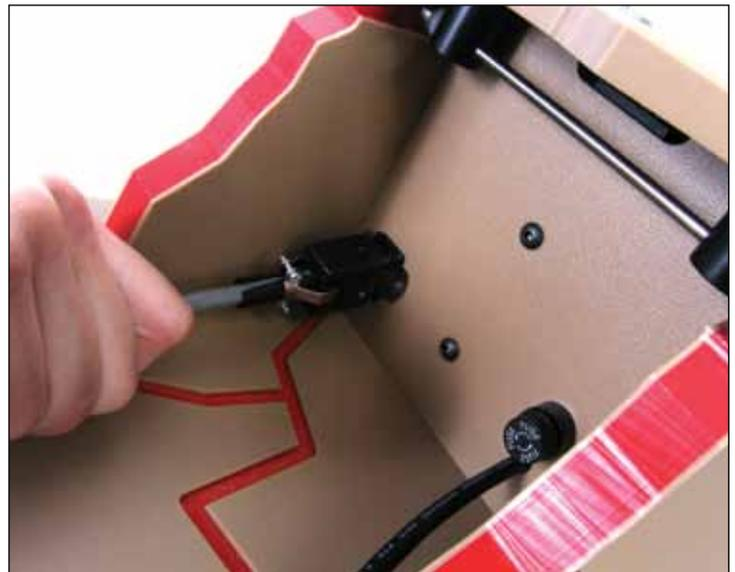

Figure 3
- 1) To set up the EQ^s, first plug the control box cord into the six-pin jack on the side of the tester (Figure 3). Place the control box where the cord is not pulling against the jack and where the operator can easily reach and see it.